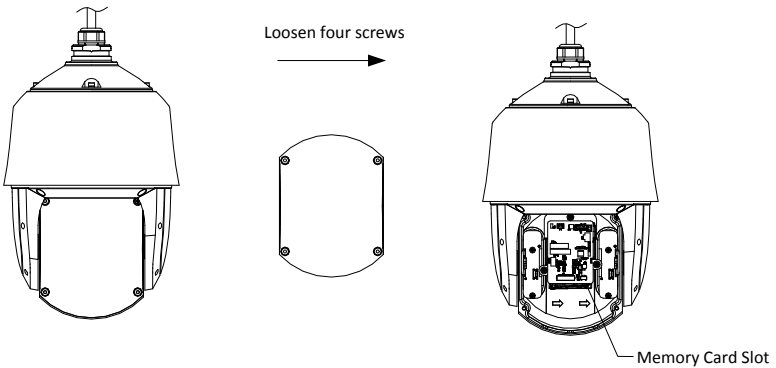

Figure 2-17 Memory Card Slot
- Refer to **Section 2.2.1 Wall Mounting** for wall mounting steps for N5xxxI series (IR) speed dome.
- Refer to Figure 2-17 for memory card slot of N5xxxI (IR) series speed dome.